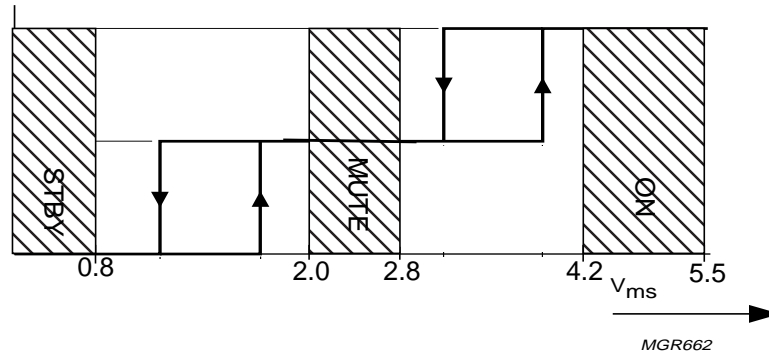

Figure 7 : mode select pin behaviour
3. The transition regions between standby-mute-on contain hystereses (see fig. 7)